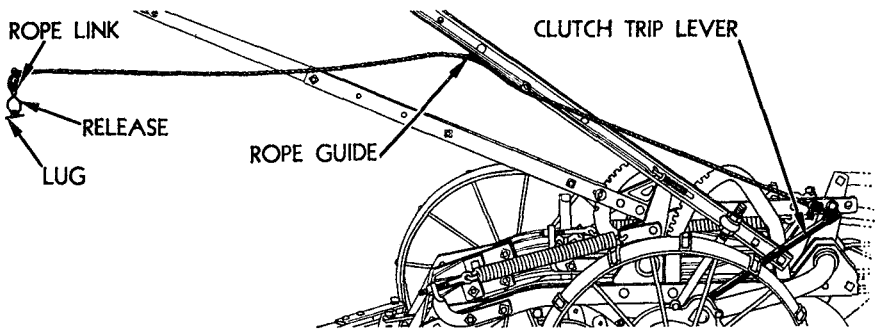

FIGURE 15—CLUTCH ROPE
13. ROPE.—(Figure 15.) Attach end of rope to clutch trip lever. Thread rope through rope guide. After plow is hitched to prime mover, attach rope link on end of rope toward prime mover so that link will just reach the operator's seat. Attach spring rope release to seat by inserting lug through one of the holes in seat. Attach link to spring release.